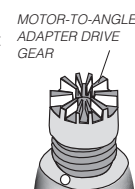

FIG.2
- Thread angle onto the motor-to-angle adapter, StarDental Titan 3 Part #264073 or Titan T Part # 263970, by hand. Seat completely. (Fig 2)